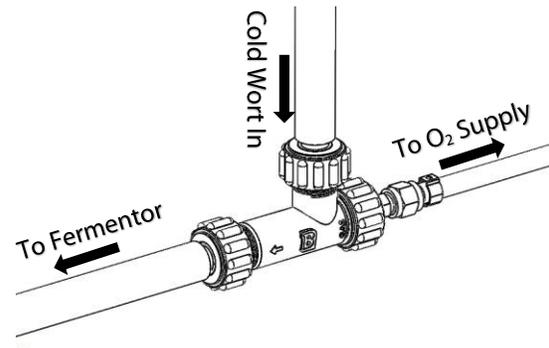

Figure 2.
5. Begin pumping or draining chilled wort through the In-Line Oxygenation Kit as shown in Figure 2.